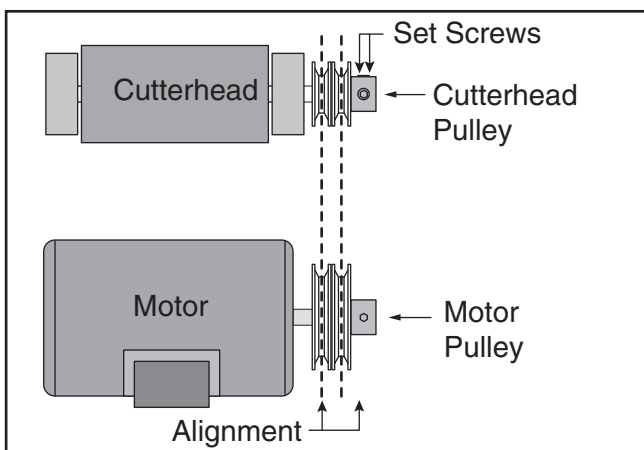

Figure 55. Pulleys properly aligned.
- Loosen set screws on end of cutterhead pulley, align cutterhead pulley with motor pulley (see **Figure 55**), then retighten set screws.